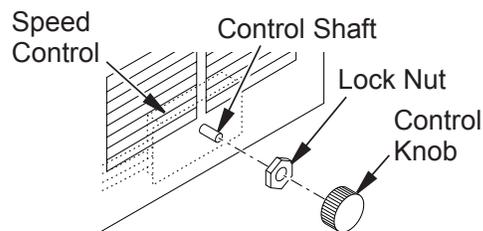

Figure 10 - Attaching Speed Control
2. Remove shipping screw from speed control in right support leg. Place speed control against inner wall of front panel, pushing the plastic control shaft forward through the opening (see Figure 10).
3. While supporting speed control, secure control shaft with lock nut by pushing and turning lock nut with pliers clockwise until it is tight against front panel. Place control knob provided on shaft (see Figure 10).